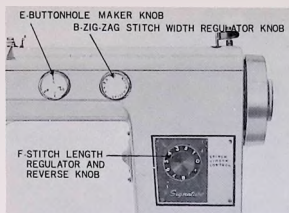
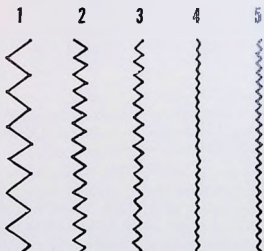

Fig. 17. Zigzag Control Knobs
Fig. 18. Zigzag Stitches
PRACTICE ZIGZAG STITCH ILLUSTRATED AS No. 1—Fig. 18. This wide zigzag stitch is used on blanket binding, stitching narrow ribbons, decorative borders and rick-rack braid. Adjust the machine as follows:
1. Turn the zigzag stitch width regulator knob, (B) Fig. 17, clockwise as far as it will go—to No. 5.
2. Adjust stitch length regulator (F) for the longest stitch—No. 8.
3. Your machine will now produce the widest zigzag stitch possible, illustrated as (1) in Fig. 18.
PRACTICE ZIGZAG STITCH ILLUSTRATED AS No. 2—Fig. 18. This stitch is used for overcasting seams, appliqueing, applying bias binding, etc. Adjust the machine as follows:
1. Turn zigzag stitch width regulator knob, (B) Fig. 17, to No. 4.
2. Turn stitch length regulator knob (F) to No. 5.
3. Your machine will now produce the stitch illustrated as (2) in Fig. 18.
PRACTICE ZIGZAG STITCH ILLUSTRATED AS No. 3—Fig. 18. This zigzag stitch is used for appliqueing, joining lace, etc. Adjust your machine as follows.
1. Turn zigzag stitch width regulator knob, (B) Fig. 17, to No. 2.
2. Turn stitch length regulator knob (F) to No. 4.
3. Your machine will now produce the zigzag stitch illustrated as No. 3 in Fig. 18.
PRACTICE ZIGZAG STITCH ILLUSTRATED AS No. 4—Fig. 18. This is a very narrow stitch which may be used for stitching arm hole seams or wherever an extra strong seam is desired. Adjust the machine as follows:
1. Turn zigzag stitch width regulator knob, (B) Fig. 17, to No. $\frac{1}{2}$.
2. Turn stitch length regulator knob (F) to No. 2.
3. The machine will now produce the zigzag stitch illustrated as No. 4 in Fig. 18.
PRACTICE ZIGZAG STITCH ILLUSTRATED AS No. 5—Fig. 18. This is a very tiny stitch used for fine rolled hems, dainty lace, appliqueing, top stitching bias seams, decorating baby clothes, etc. Adjust the machine as follows:
1. Turn zigzag stitch width regulator knob, (B) Fig. 17, to No. 1.
3. The machine will now produce the zigzag stitch illustrated as No. 5 in Fig. 18.
Before embroidering any of the following stitch patterns, set the stitch width regulator knob (B) Fig. 17, at No. 5.
1. Turn zigzag stitch width regulator knob, (B) Fig. 17, to produce the width of zigzag stitch desired.
2. Turn zigzag stitch width regulator knob, (B) Fig. 17, to No. 1 or No. 1½ to produce a narrow zigzag stitch.
3. Set stitch length regulator (F) at No. 4 or No. 5. Stitches should not be too close.
2. Turn zigzag stitch width regulator knob, (B) Fig. 17, to No. 0.
3. Set stitch length regulator knob (F) Fig. 17, at No. 4.
Proceed as outlined above, except that in step 2 above, turn zigzag stitch width regulator knob, (B) Fig. 17, to No. 2.
3. Set stitch length regulator knob (F) at No. 4.
2. Set stitch length regulator knob (F) at No. 2.
3. Place the patch over the hole and sew the patch on to the garment. This stitch is almost like a regular machine stitch but is strong, and it resists ripping. Now trim off the projecting edges of material. Turn the zigzag stitch regulator knob (B) to No. 2, while leaving the stitch length regulator knob at No. 2 and sew a zigzag seam over the wavy zigzag stitch.
2. Set stitch length regulator knob (F) at No. 1.